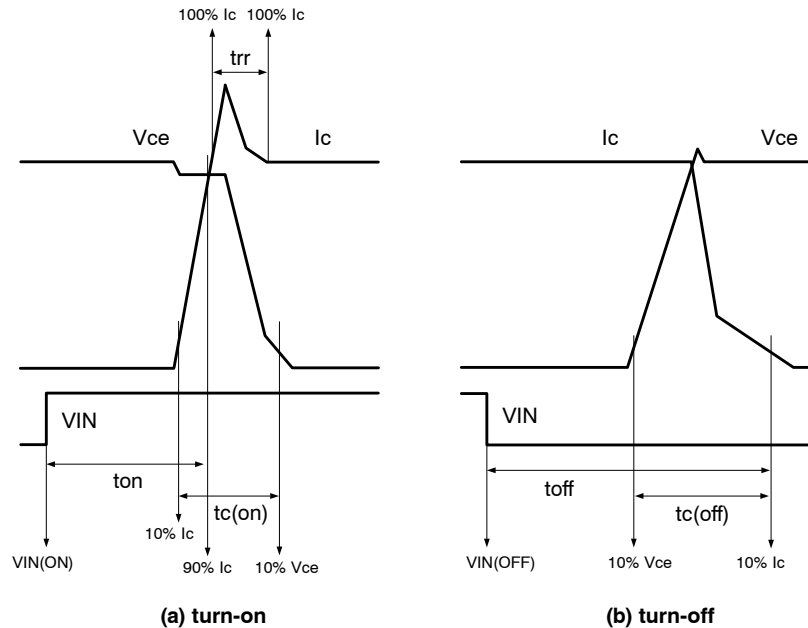

Figure 3. Switching Time Definition
6. t_{on} and t_{off} include the propagation delay of the internal drive IC. $t_{c(on)}$ and $t_{c(off)}$ are the switching times of IGBT under the given gate-driving condition internally. For the detailed information, please see Figure 3.